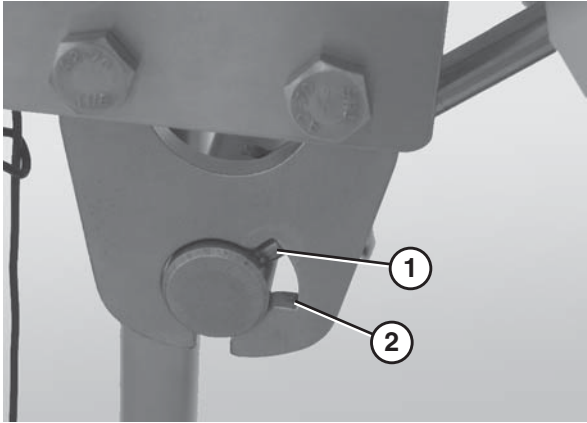

Figure 11
3. Insert the notched end of the scraper shaft (Figure 11, item 1) so that it is situated within the groove in the mounting plate (Figure 11, item 2).